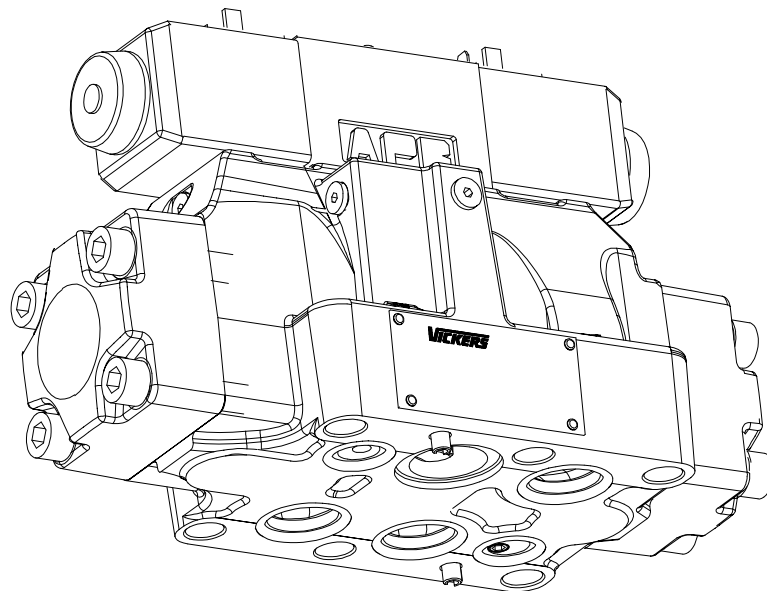

Figure 2. Typical 'DG5' Type Solenoid Controlled, Pilot Operated Valve
Two stage directional valves are pilot pressure operated. A two stage valve is constructed by combining a pilot valve and a larger main stage valve into one assembly. A DG4V-3(S) pilot valve is mounted on top of the main stage valve. When a pilot valve solenoid is energized (activated), the pilot spool moves and fluid is diverted to the mainstage; thus controlling main stage spool movement. Figure 2 illustrates the basic construction of a two stage, pilot operated directional valve.